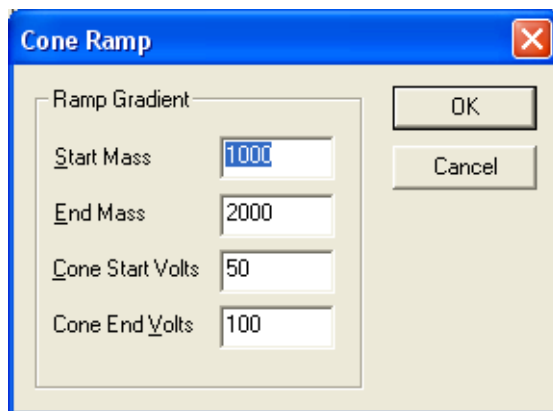

Figure 5-11 Cone Ramp Dialog Box
2. Click CV Ramp to open the Cone Ramp dialog box (Figure 5-11).